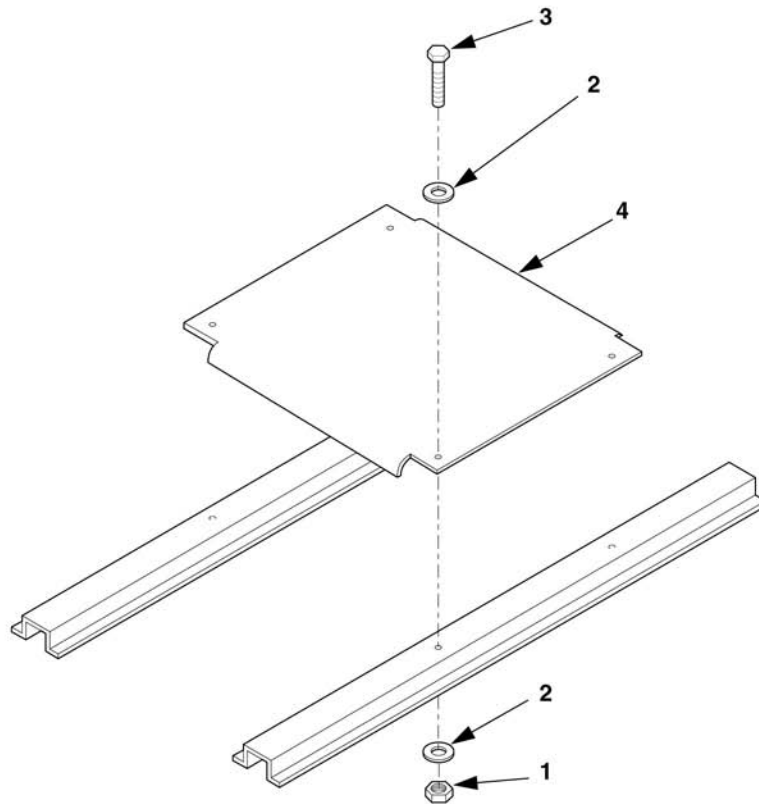

Figure 4-21. Platform, Trailer Replacement.
Remove four self-locking nuts (1, Figure 4-21), eight flat washers (2), four screws (3), and trailer center plate (4).